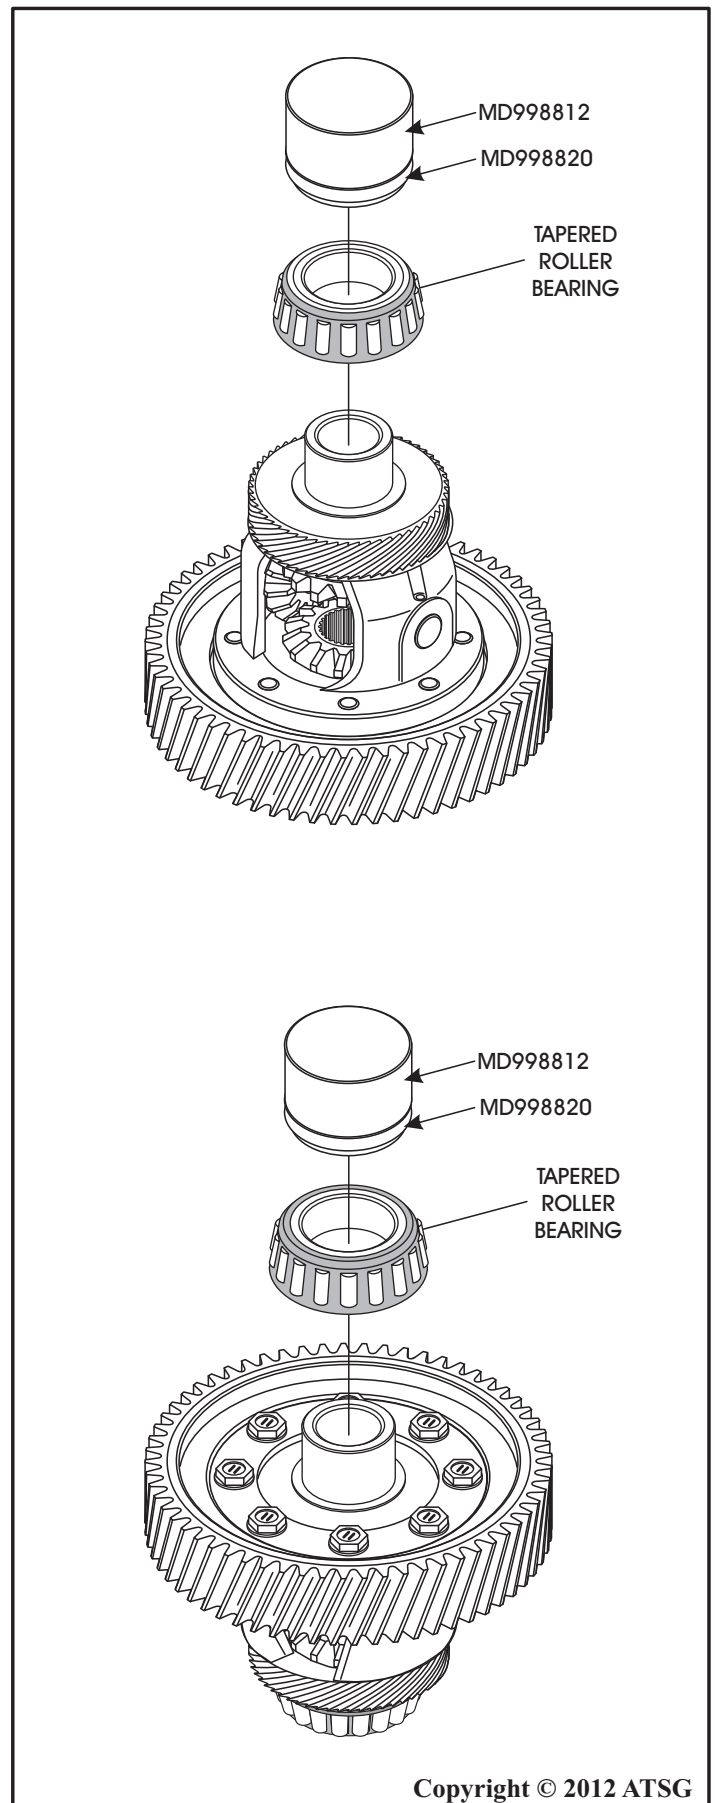

Figure 161
5. Install the tapered roller bearings using the special tools, shown in Figure 161, and using a suitable hydraulic shop press.